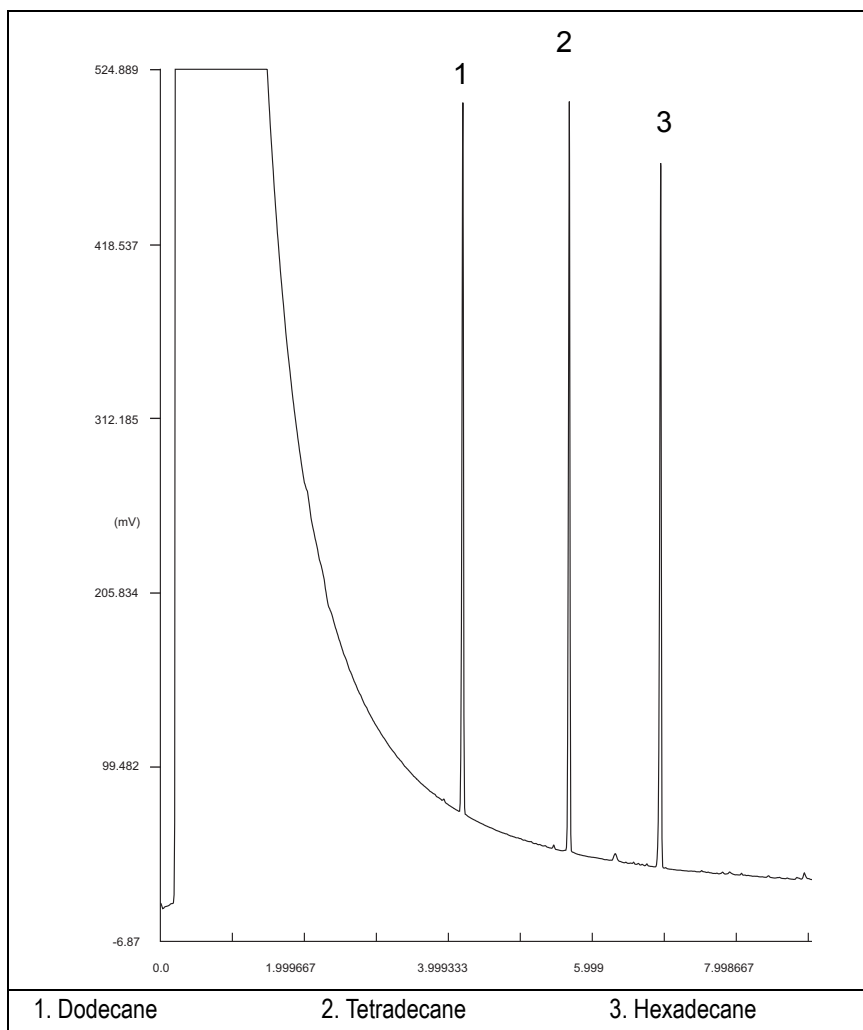

Figure 4-1. FID-Packed Injection
12. Inject the test mixture and press **START** on the GC to begin the checkout run. The resulting chromatogram should look like the one shown in *Figure 4.1*